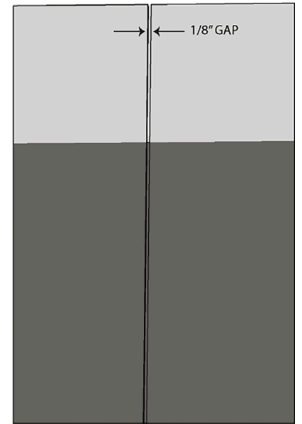

FIGURE 13
Set Wood Block on center of base for spacing and safety. Set the Glass Door (O) on top of Wood Block (U) and position Hinge Jamb (B) to go over the Wall Jamb (A). USING TWO PEOPLE (1 PERSON INSIDE, 1 PERSON OUTSIDE), slide Hinge Jamb (B) over Wall Jamb (A) carefully until fully compressed. (See Figure 13) Wood Block should still be under the Glass Door (O).